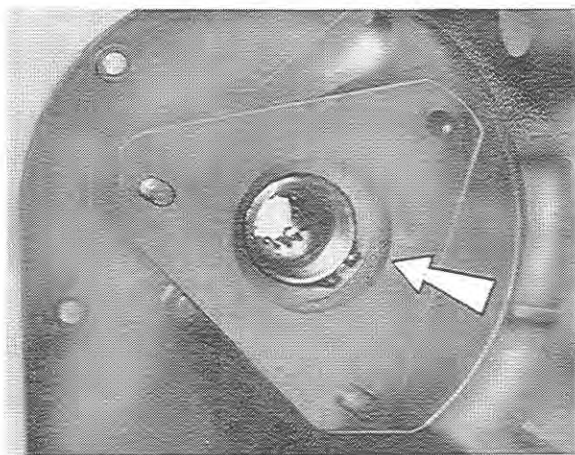

Fig. 10
- 3) Remove the inner circlip (Fig. 10).